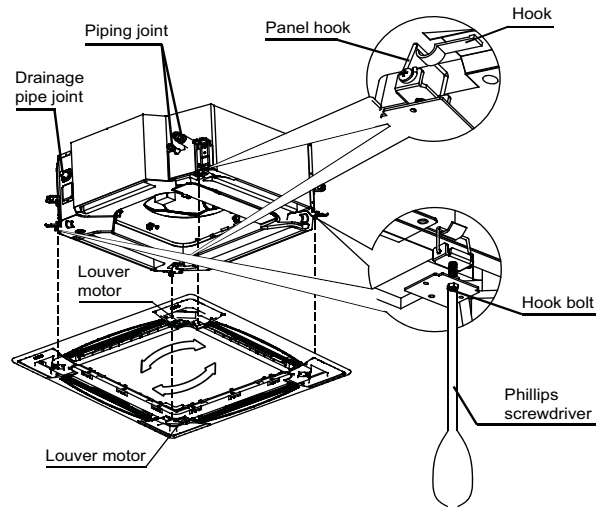

Fig. 10 — Mounting Panel
4. Secure the panel (without the grille) onto the unit, using M5 x 16 screws and washers. Before tightening the screws, be sure the panel is flush with the false ceiling. See Fig. 10.